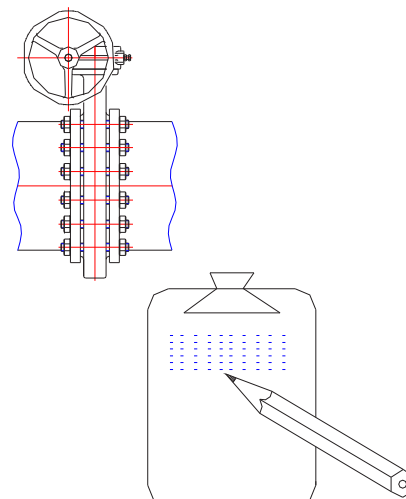

Fig.30
**17.3.5** If there are any problems could not be eliminated during service - Please contact DVC A/S and describe damage condition then we could serve you as sooner as we could. (Fig.30)